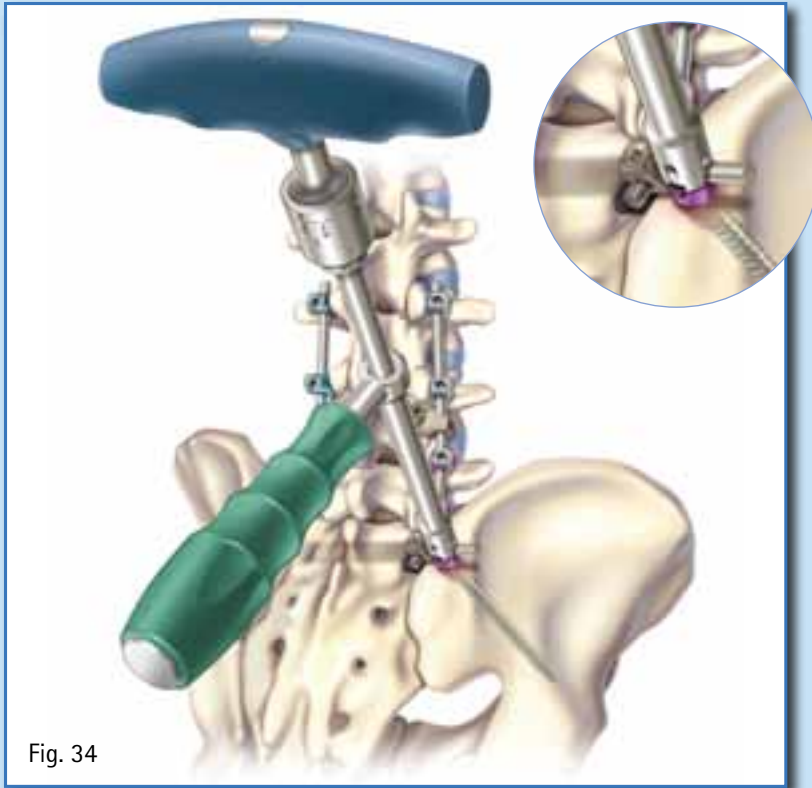

Fig. 34
- Final tighten the set screw by using the clicking torque wrench or the line to line torque wrench along with the counter torque L-handle (FW170R) (as described in section 10). (Fig. 34)